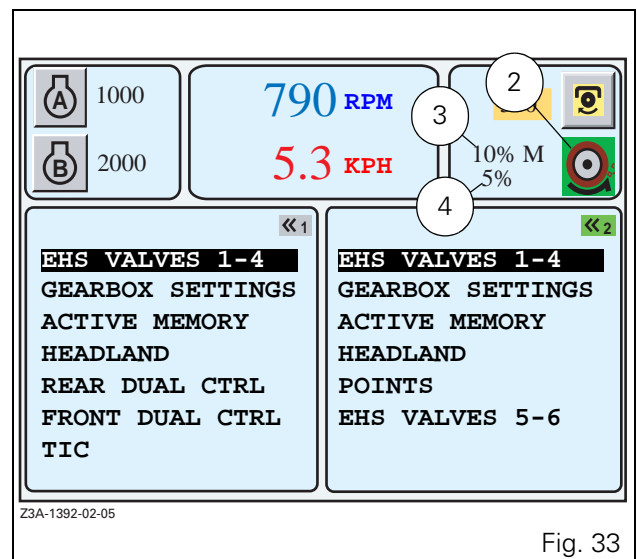

Fig. 33
**NOTE:** This function can be activated by pressing the switch (1 Fig. 32), the wheelslip control icon turns to green (2 Fig. 33).
#### Description (Fig. 33):